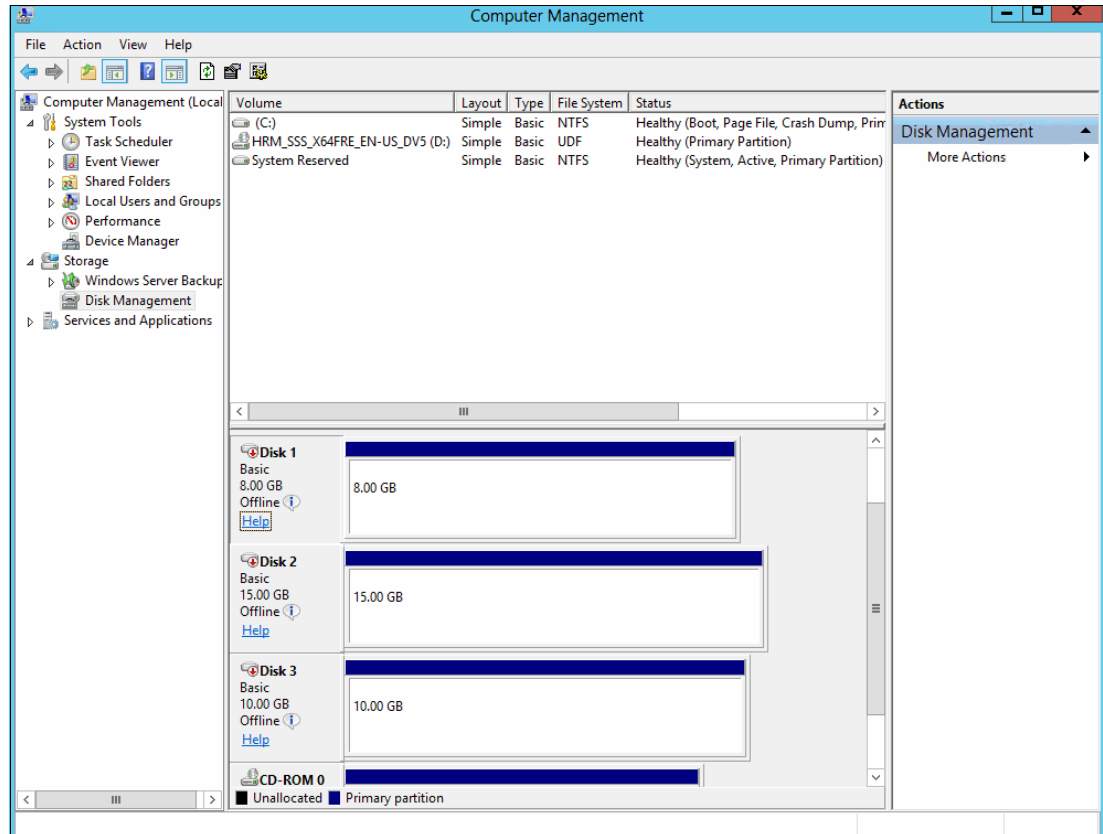

Figure 6-67 Rescanning for new Storwize V3700 volumes: Windows 2012
1. In this example, from the Windows 2012 host, go to the Server Manager Dashboard and select **Tools** → **Computer Management** → **Storage** → **Disk Management**, as shown in Figure 6-24 on page 269. The rescan should find the previous volumes, as shown in Figure 6-67.